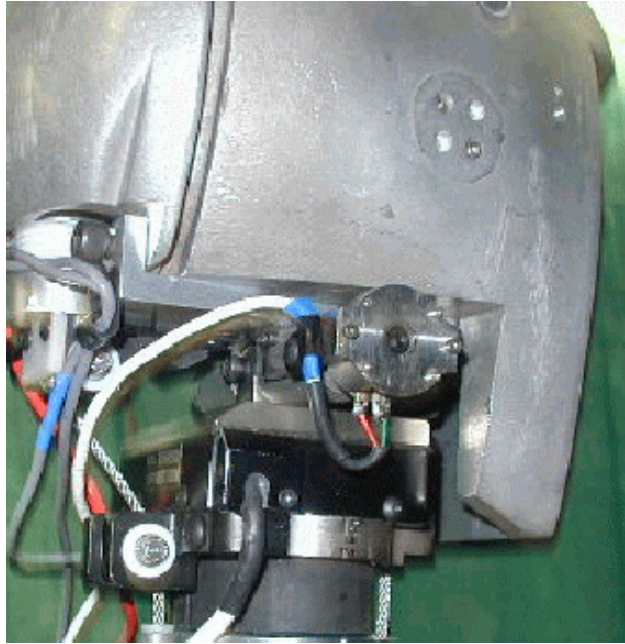

Figure 5.15- Neck potentiometer assembly
21. Install the Rotary Potentiometer Housing Cover (T1NKM018) over the neck rotary potentiometer housing with four #0-80 x 1/8" SHCS {0.050}. Secure the rotary potentiometer housing cover to the rotary potentiometer arms using two #2-56 x 1/4" SHCS {5/64}. Secure the rotary potentiometer wire in a 1/8" wire clamp to the rear potentiometer arm using one #6-32 x 3/8" BHSCS {5/64} as shown in **Figure 5.15**.